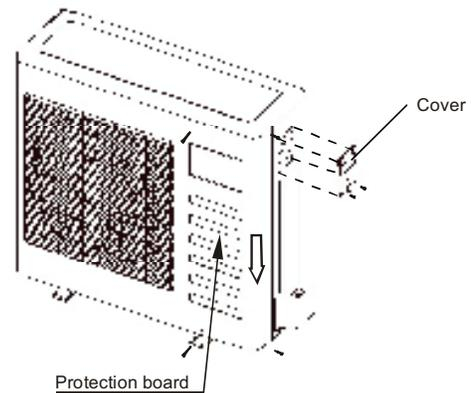

Figure 34
1. Remove the bolts from the cover. If there is no cover on the outdoor unit, remove the bolts from the maintenance board. Pull in the direction of the arrow on Figure 34 to remove the protection board.